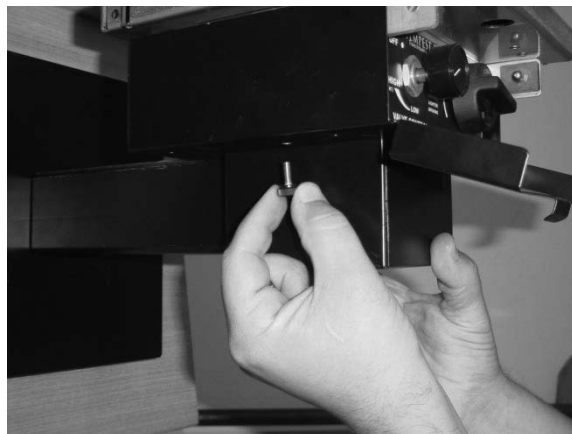

Figure 22
14. Attach the control cover to the torch using the thumbscrews removed in step 9 (see Figure 22).